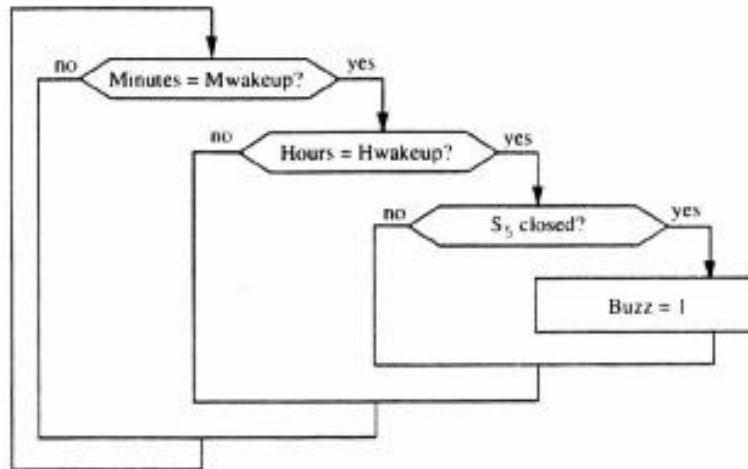
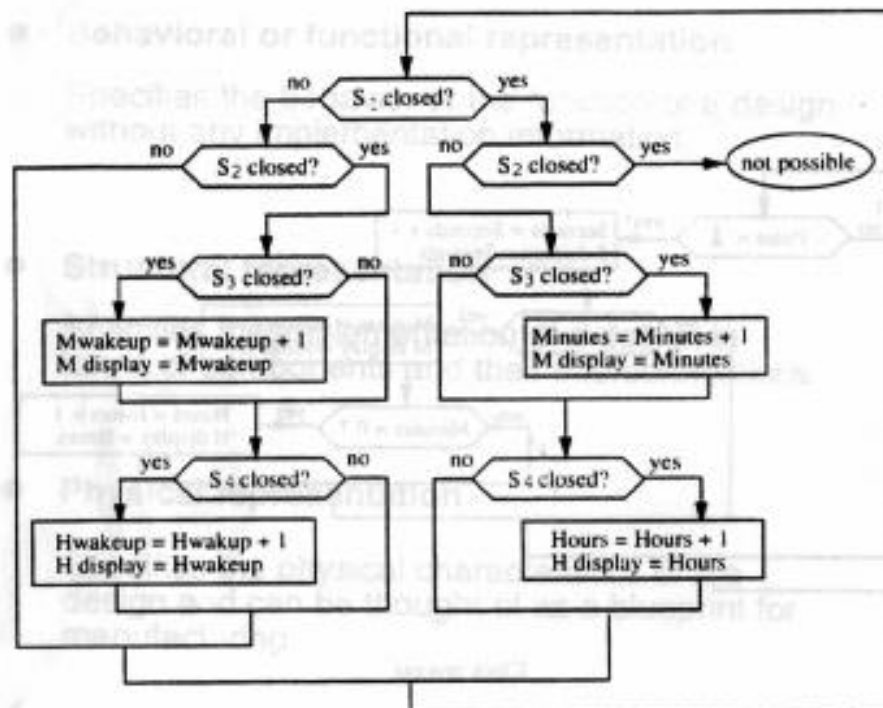
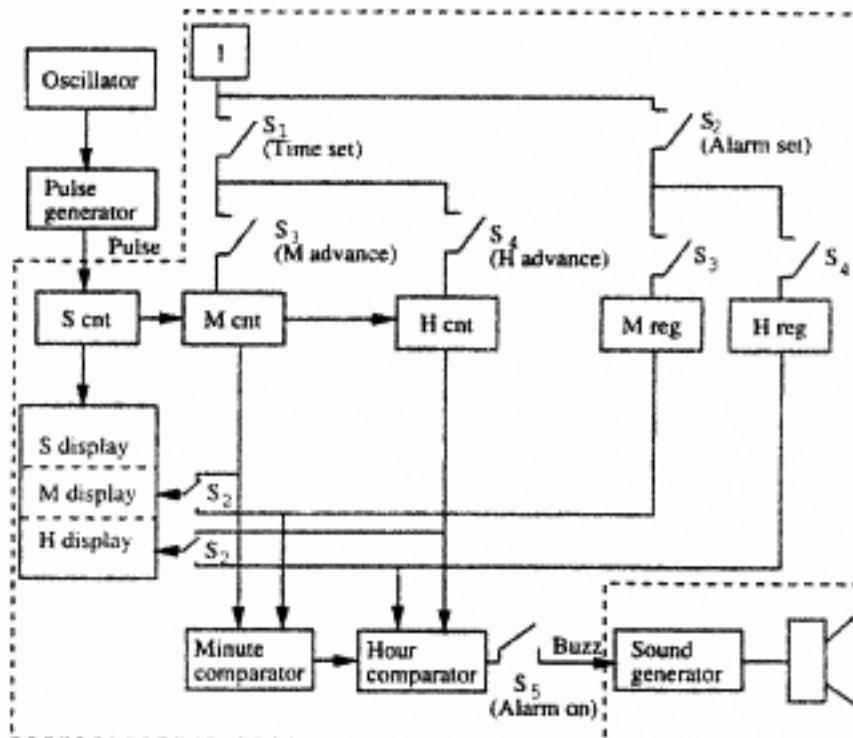

Figure 2: Alarm Buzz Behavior
Figure 3: Time and Alarm Set Behavior
Figure 4: Alarm Clock Structural Schematic
The buzzing part of the alarm is essentially nothing but an equality check between the minutes and hours of the current time and the alarm time (not too many people seem to care about alarms that buzz on a particular second, so the buzzer will not check for equality of seconds), complete with an **AlarmOn** switch that is used to turn the buzzer on and off, in case the user doesn't want to be rudely awakened on a day of leisure (See switch “S5” in **Figure 2** and **Figure 4**). The setting of the alarm time and the current time is shown in **Figure 3**. The user will enable the setting of the time with a pair of switches, **SetCurrentTime** (switch “S1”) and **SetAlarmTime** (Switch “S2”). If neither switch is on, the user will be
The behavioral description in **Figure 2** that illustrates the buzzing functionality necessitates an equality check between the current time and alarm time. We will provide you with a **7Comp** circuit that implements this functionality. (All you need for this part is a comparator of 6 bits, but we are providing you a slightly larger one so that you can handle with the same comparator the comparisons needed in later parts as well.)
Figure 3 illustrates the behavioral description for setting the correct time, a functionality that can be incorporated into the **ClockDev**. To complete the implementation of **Figures 2** and **3**, you need an **AlarmDev** component which in many ways mimics the **ClockDev** component. We will supply you with an **AlarmDev** as well.
SetCurrentTime and **SetAlarmTime** together determine the functionality that the user is interested in. In **Figure 3**, these two switches are modeled by S_1 and S_2 , respectively. When both **SetCurrentTime** and **SetAlarmTime** are off (we shall use the notation “ $(S_1, S_2) = (0, 0)$ ”), the clock should passively tick and display the current time. If $(S_1, S_2) = (1, 0)$, the user should be able to set the current time (the display should show the current time). If $(S_1, S_2) = (0, 1)$, the user should be able to set the alarm time (the display should show the alarm time, so that the user can see it as it changes.) $(S_1, S_2) = (1, 1)$ will behave identically to $(S_1, S_2) = (0, 0)$, i.e. increment neither. The switches are modeled by the **Binary Switch**, which is provided by the component libraries native to *LogicWorks*. The selection of functionality can be implemented by using a **decoder**, which can also be found in the native libraries.
A high-level structural schematic that embodies this discussion is presented in **Figure 4**.
- You should use a Binary Switch to activate the alarm functionality (**AlarmOn**). (Refer to switch S5 in Figure 2 and Figure 4.)
- You should implement the logic that will enable the user to set the alarm time and the current time. You should use two switches (Refer to switches S1 and S2 in Figure 3 and Figure 4) and a decoder component, which you can get from the library, to implement the following cases: